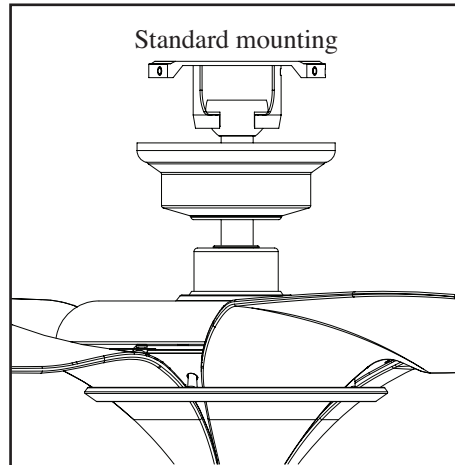

Figure 15
4. Carefully lift the fan assembly up to the ceiling mounting bracket. Make sure the tab on the mounting bracket is properly seated in the groove in the hanger ball. (Figure 15)